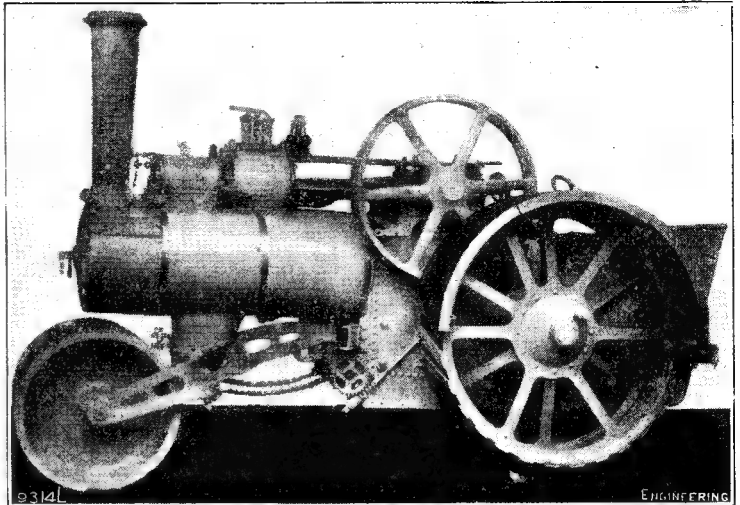

Fig. 19. Eddington & Steevenson's engine as a road roller
6. Traction wheels can be shod with cast-iron segments as seen in Fig. 19 when converted to ■
Fig. 19 shows the engine converted to its road roller form by attaching the roller frame which carries the pivot of the fore-carriage of the engine, the ordinary steering chains being connected to this frame, one on either side. This frame is carried back towards the firebox, and beneath the boiler barrel, ■ suitable channel guide is riveted on to the firebox and in this guide the rear end of the frame works. To convert, one had only to remove the traction engine front axle and then substitute the roller attachment, fit the cast-iron segments to the rear wheels (item 6), when the conversion was complete.